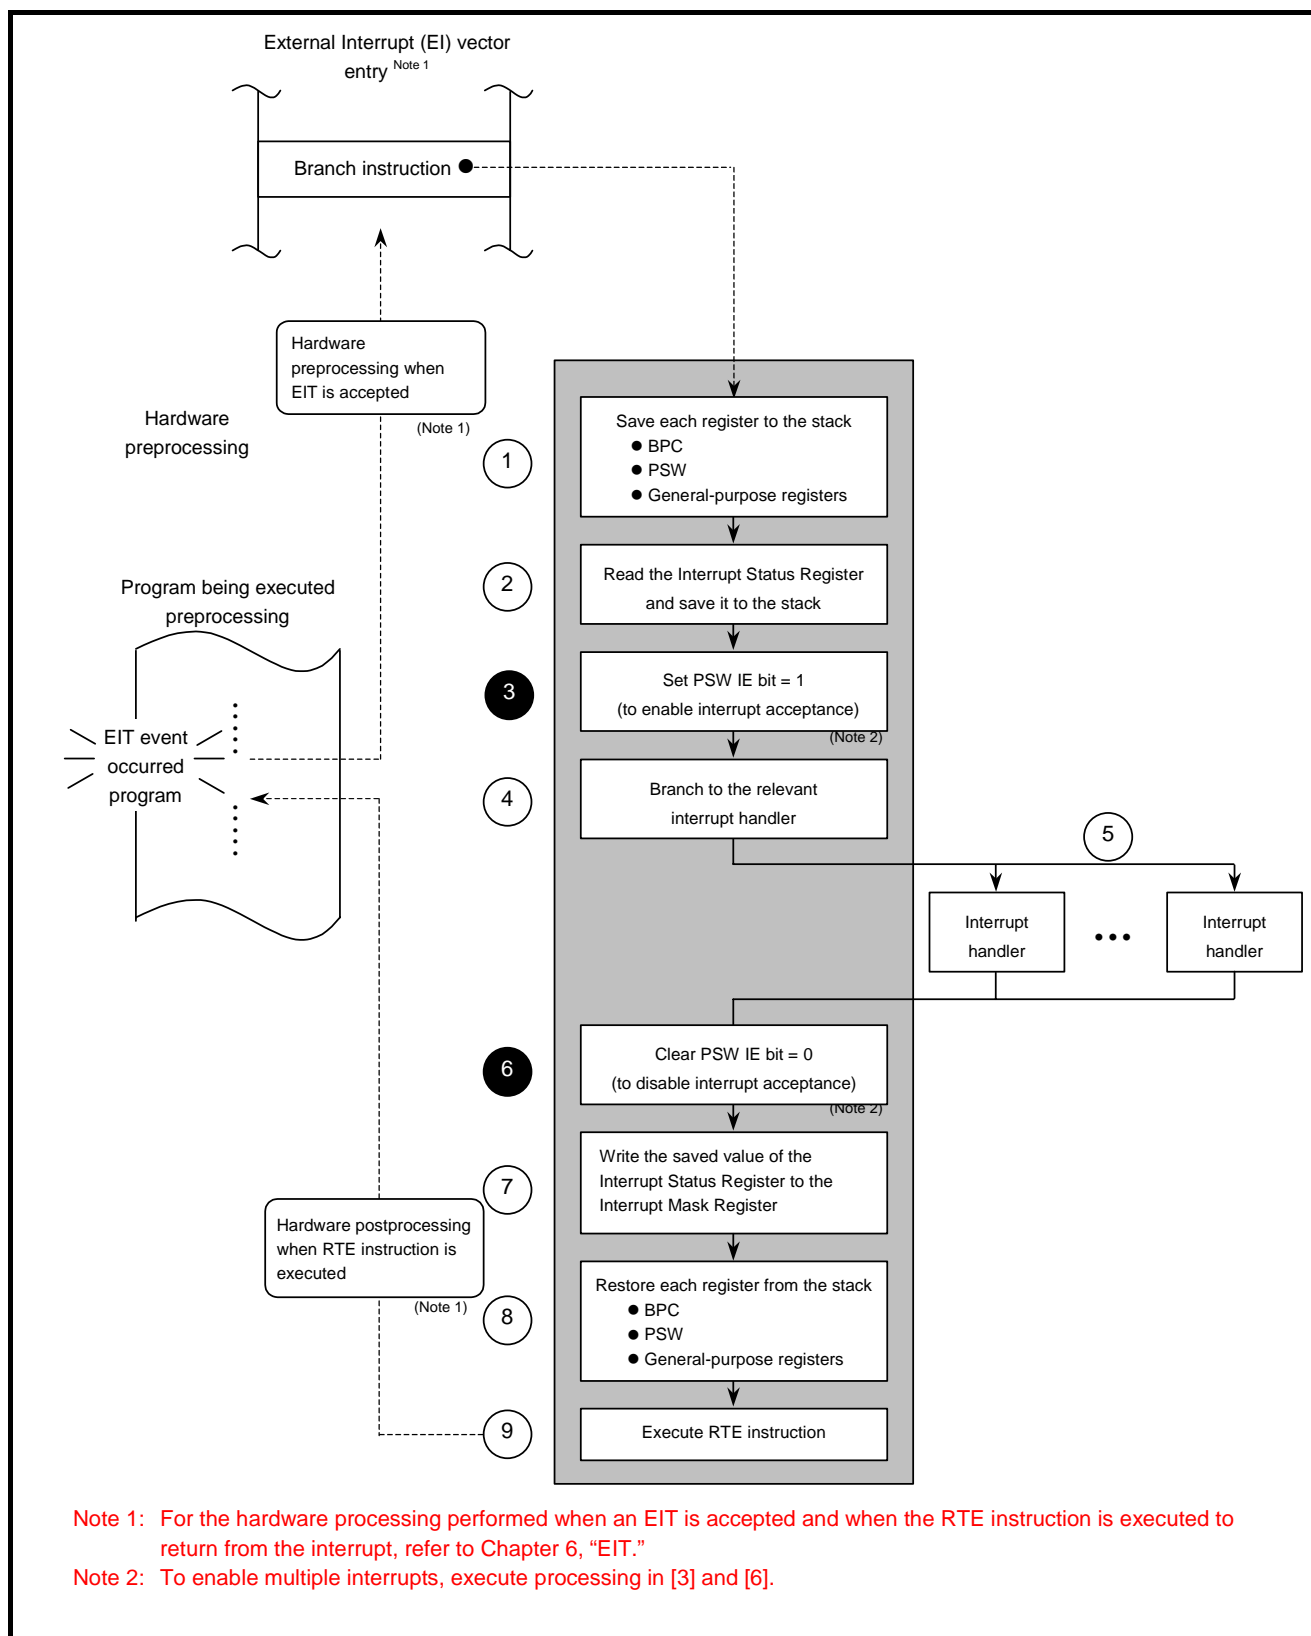

Figure 8.4.6 Example Processing by the External Interrupt (EI) Handler
8.4.4 Example Processing by the External Interrupt (EI) Handler
The following shows an example operation performed by the OPSP-CPU when an interrupt request occurs. Figure 8.4.6 shows example processing by the External Interrupt (EI) handler.
(1) Branching to the External Interrupt (EI) handler